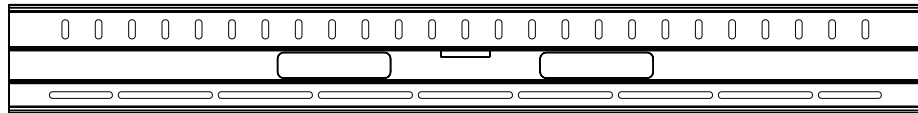
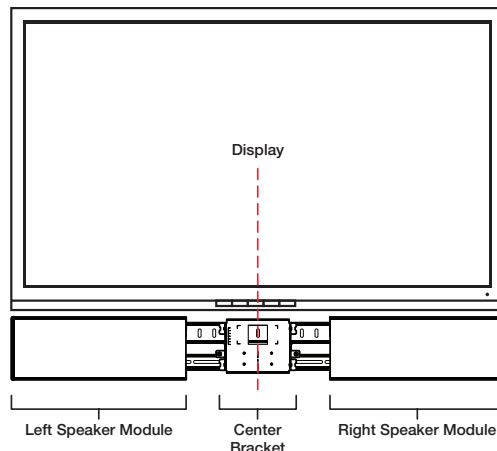

Figure 4. Positioning the Wallplate
Figure 5. Display Screen and SB 33 A Alignment
1. Position and level the included wallplate (see figure 4) under the display screen (see figure 5) and mark the locations of the wall studs through the top vertical slots and bottom horizontal slots where screws (not included) will secure the SB 33 A speaker wallplate to the wall.